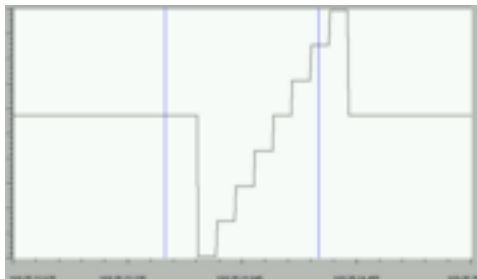

Figure 6-7: An example of a continuous step protocol.
- 5 Press the **Start** button. The resulting wave would be similar to the step-wise elevation of output amplitude seen in Figure 6-7 on page 88.